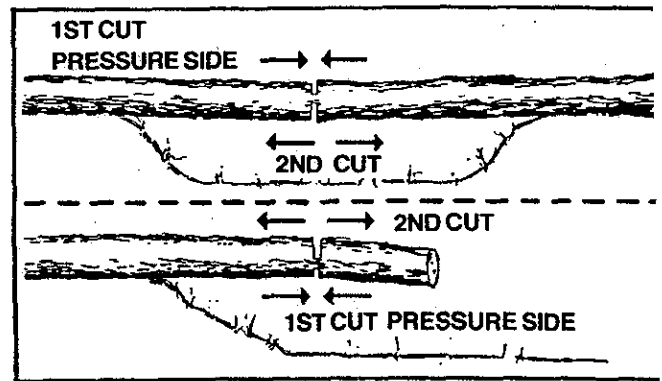

Figure 25
- Give special attention to logs under strain to prevent the saw from pinching. Make the first cut on the pressure side to relieve the stress on the log. (Figure 25)